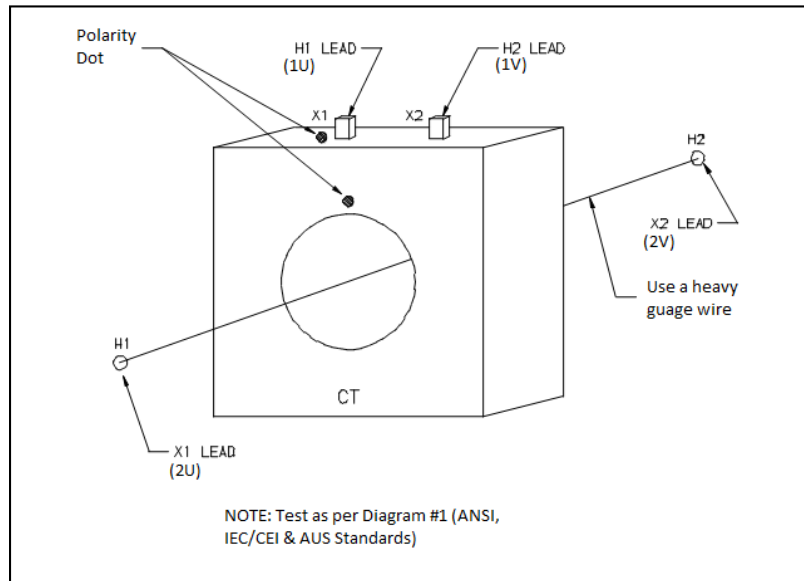

Figure 6-8 Setup for Testing Unmounted Current Transformer (only X1-X2 winding resistance can be tested for CTs) Use vector diagram **1P0**
1. Connect the H(1) and X(2) test cables to the respective H and X receptacles of the MWA300.
2. As shown in Figure 6-8, connect the clamps marked H1(1U) and H2(1V) of the test lead to the respective X1 and X2 terminals of the CT.
3. As shown in Figure 6-8, connect the clamps marked X1(2U) and X2(2V) of the test lead to the respective H1(1U) and H2(1V) terminals of the CT. Ensure correct polarity.